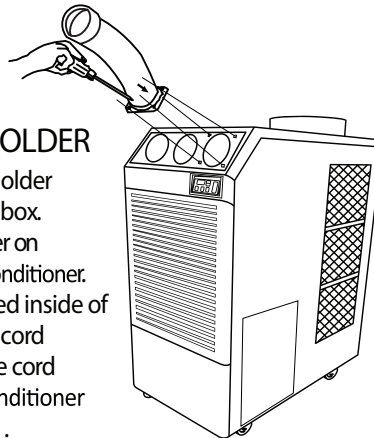

Figure 2
3. Use screws (enclosed inside of box with cool air outlet hose(s)) to install the cool air outlet hose(s) on the air conditioner as shown in Figure 2.